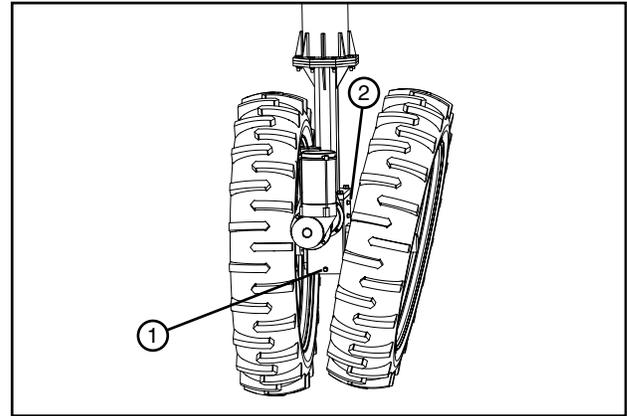

Figure 61-1 1. Drain Plug
2. Remove the drain plug from center drive gearbox. Drain oil into a container. See Figures 61-1 and 61-2.
1. Remove both the fill plug and drain plug from the steering motor gearbox, then drain the oil into a container. See Figure 61-1.